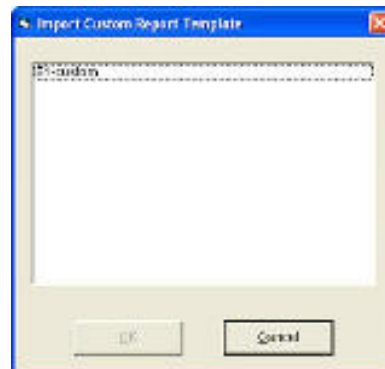

Figure 11-4: Example of the Import Custom Report Template dialog box
1. After editing and saving the form, click **Import** in the **Final Report** window. The Import Custom Report Template dialog box appears (Figure 11-4).